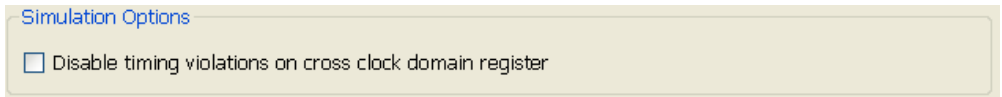

Figure 10-19: AXI4-Stream Interface FIFO: Page 5 - Simulation Options
- Simulation Options can be set using the a similar option on Page 5 of the AXI4-Stream FIFO GUI, as shown in Figure 10-19.